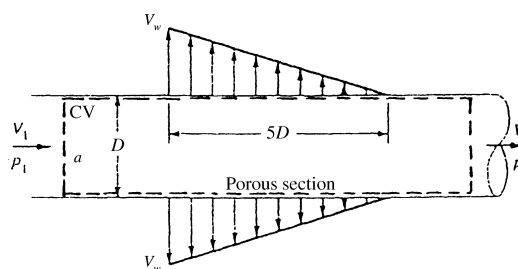

Fig. P3.87
**3.87** Figure P3.87 simulates a *manifold* flow, with fluid removed from a porous wall or perforated section of pipe. Assume incompressible flow with negligible wall friction and small suction  $V_w \ll V_1$ . If  $(p_1, V_1, V_w, \rho, D)$  are known, derive expressions for (a)  $V_2$  and (b)  $p_2$ .